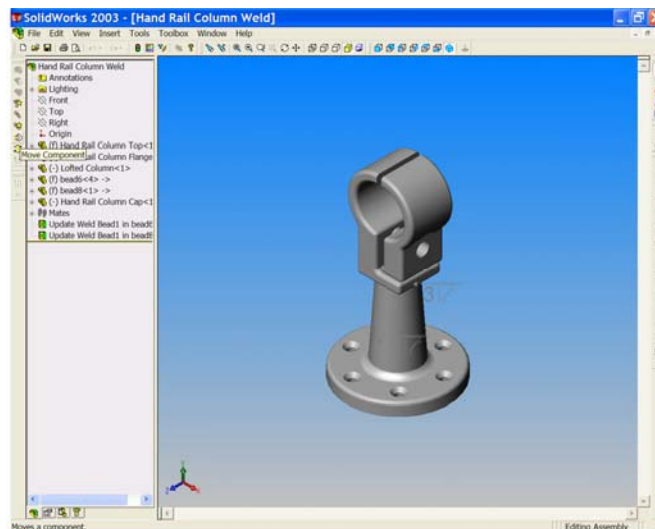

Figure 1
5. Use 'Move Component' to position the Cap as shown in Figure 1.